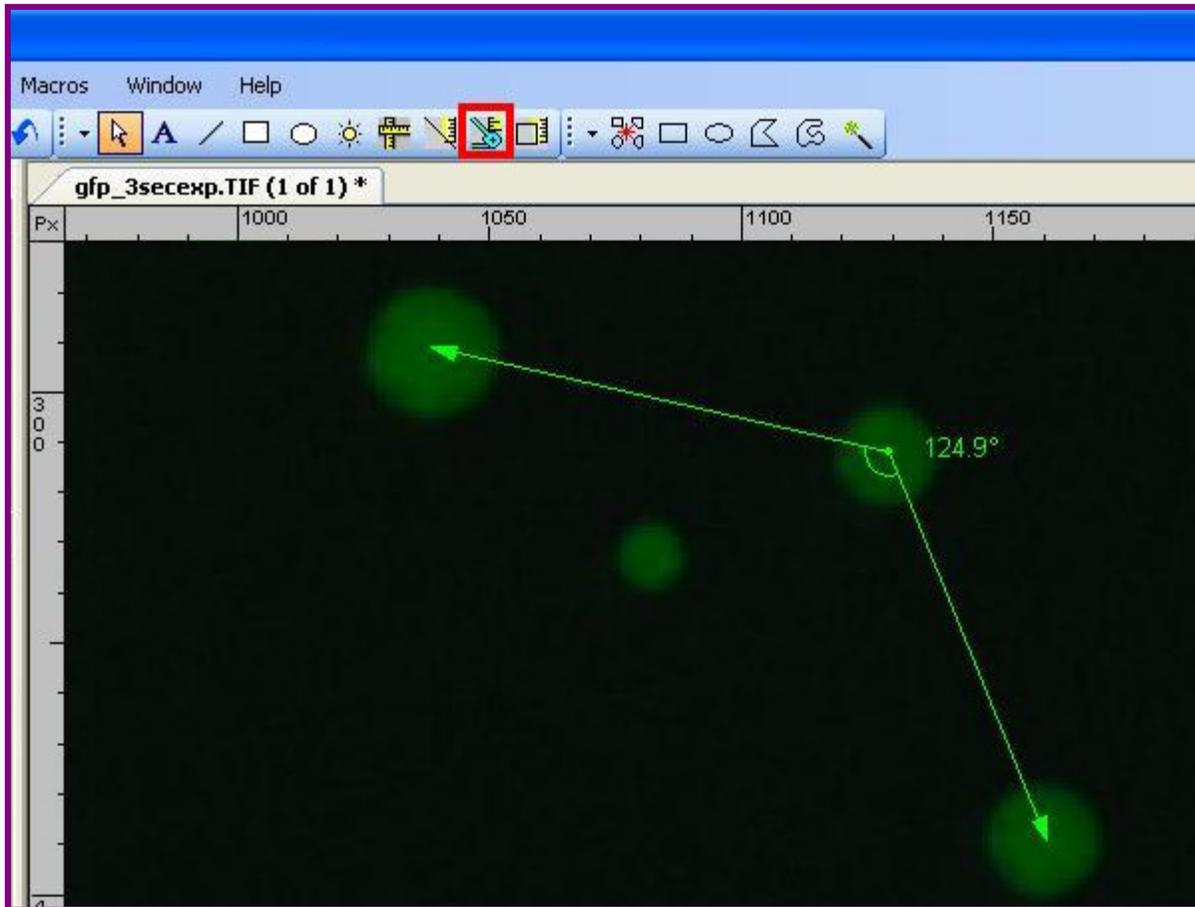

Fig. 5 – Measure Angle
Using the “Measure Angle” tool, it is possible to measure the angles between features within an image. To measure angles within an image (Fig. 5):
- Click the “Measure Angle” button in the “Annotations” toolbar (shown in the red area in Fig. 5).